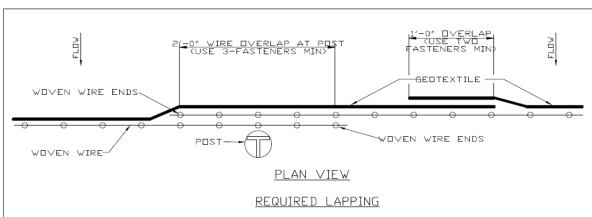

Figure SB-2 Type A Silt Fence Overlap
- When joining ends of fabric, use methods shown in Figures SB-2 or SB-3 for the Type of fence.